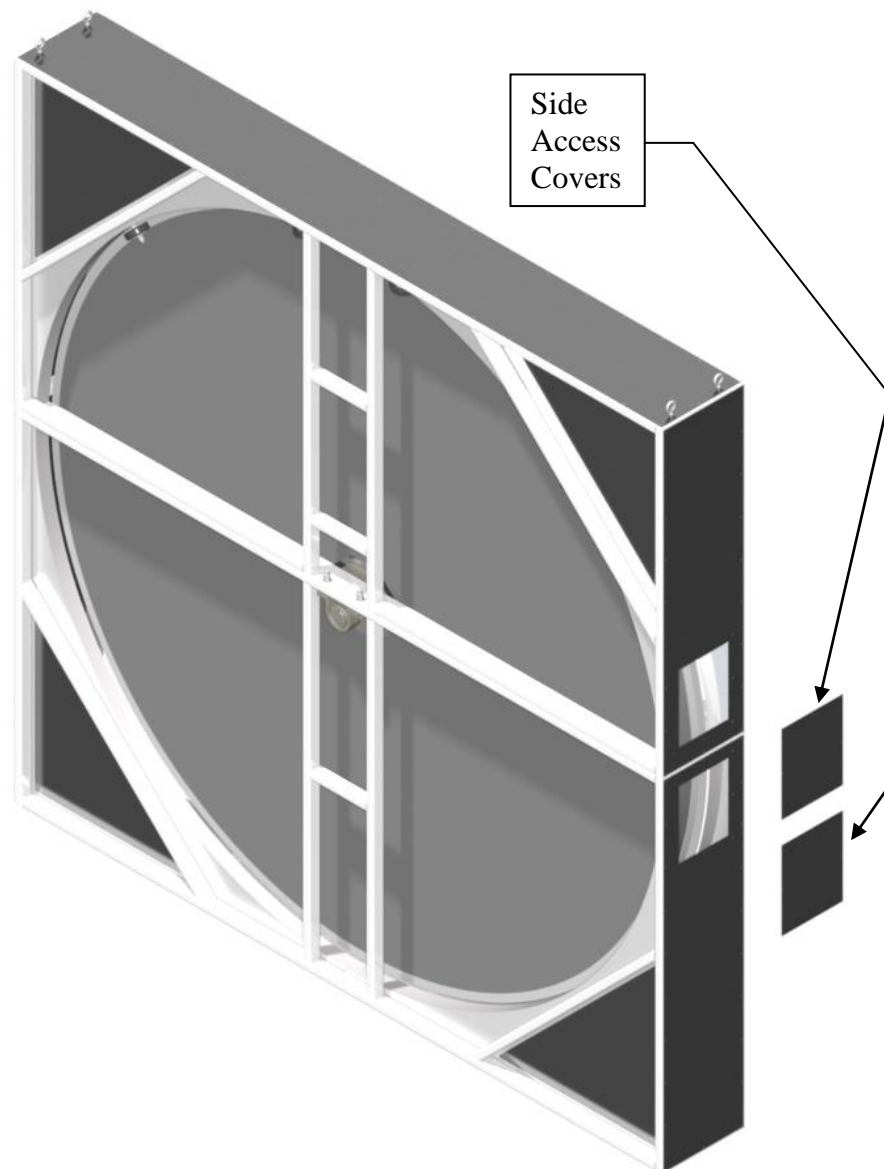
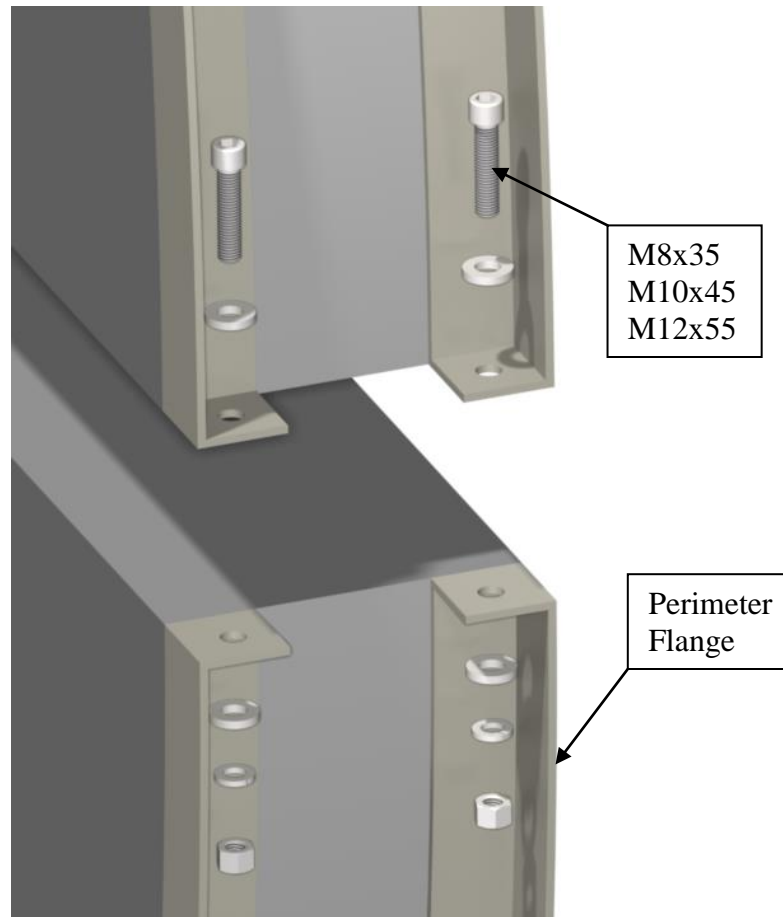

Figure 3
Figure 8
- Bolt the two halves of the casing together using the hardware provided. In addition to the bolt holes in the structural beams running horizontally across the rotor, there are 4 bolt holes (2 per side) accessible through the side access panels (see Figure 3).
- Next, bolt the perimeter flanges of the two halves of the rotor together using the hardware provided (see Figure 8). Access to these bolts is available through the side access panels shown in Figure 3. Note that the bolt size will vary depending on the size of the rotor. Clamp a flat piece of steel to the faces of the perimeter flanges to ensure they are flush before tightening the bolts.